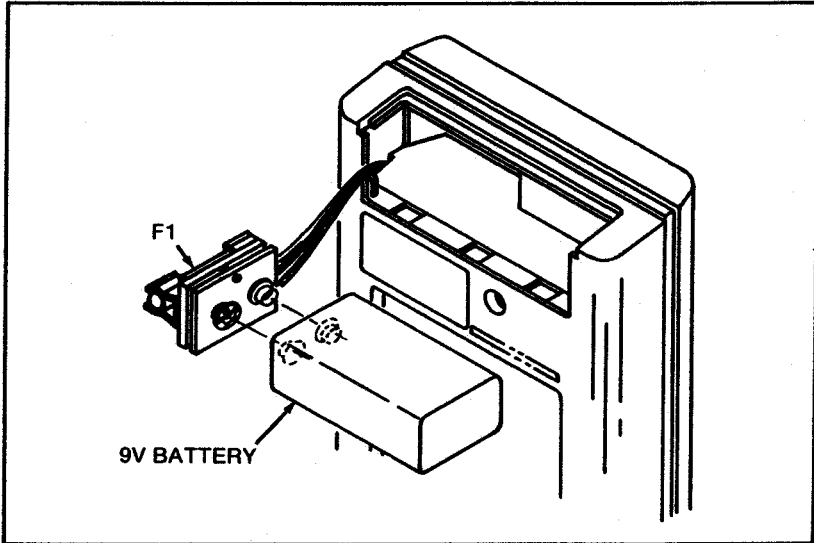

Figure 2-2. Battery Clip and Fuse Holder
5. Carefully pull the battery clip free from the battery terminals as shown in Figure 2-2.